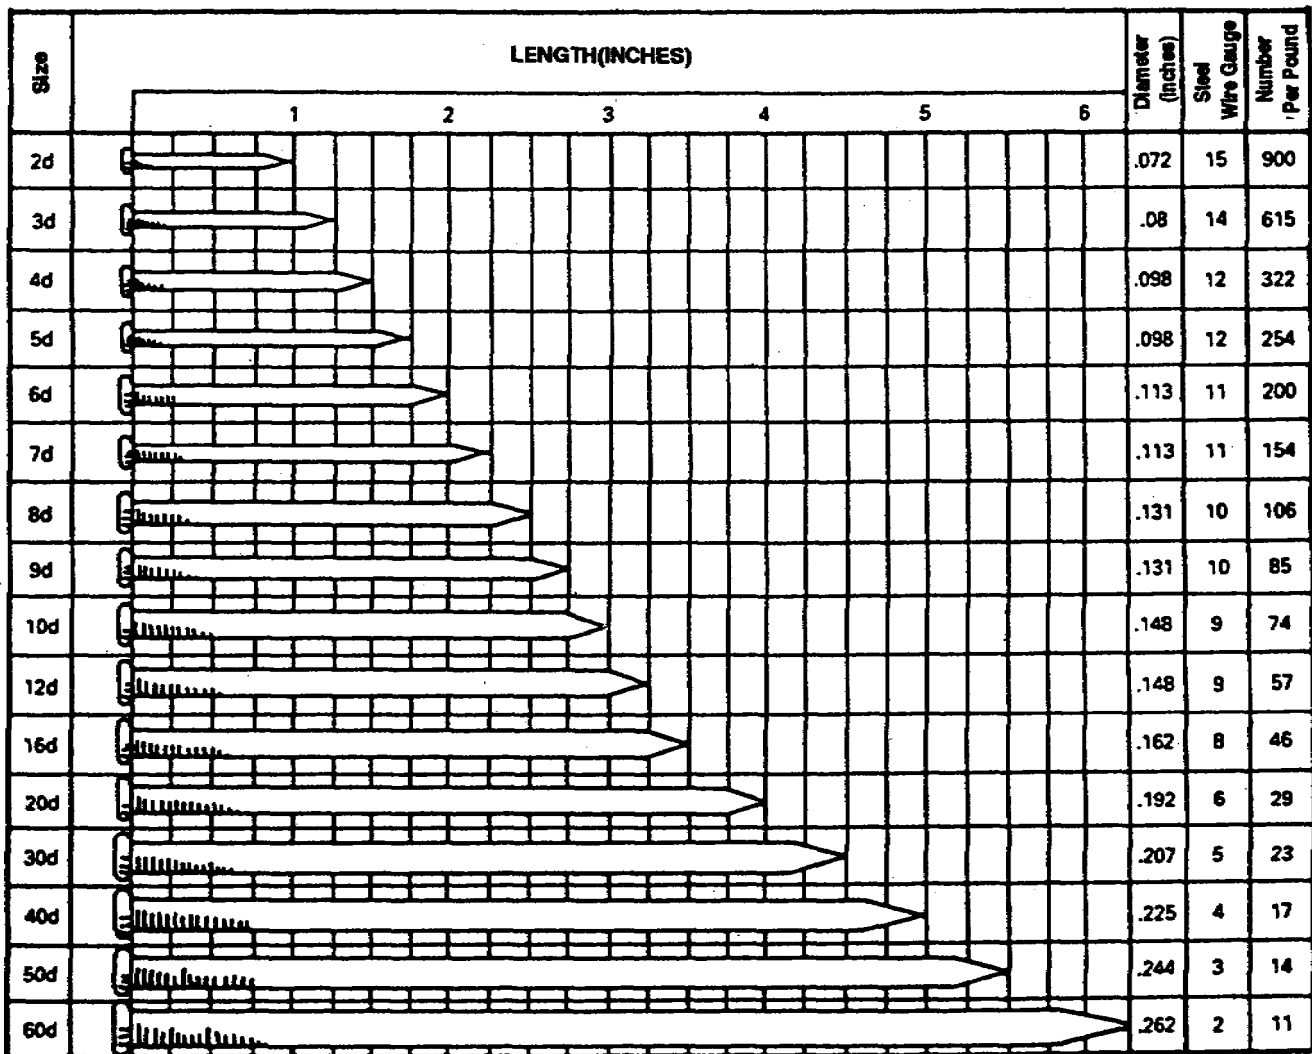

Figure 1-32. Nail sizes
b. Sizes. Nail sizes are given by penny number from twopenny to sixty penny (Figure 1-32). A small letter *d* is the recognized abbreviation for penny. The penny number refers to the length of the nail. Nails are normally packaged in 50-pound boxes. Table 1-7, page 1-34, gives the general sizes and types of nails preferred for specific applications.